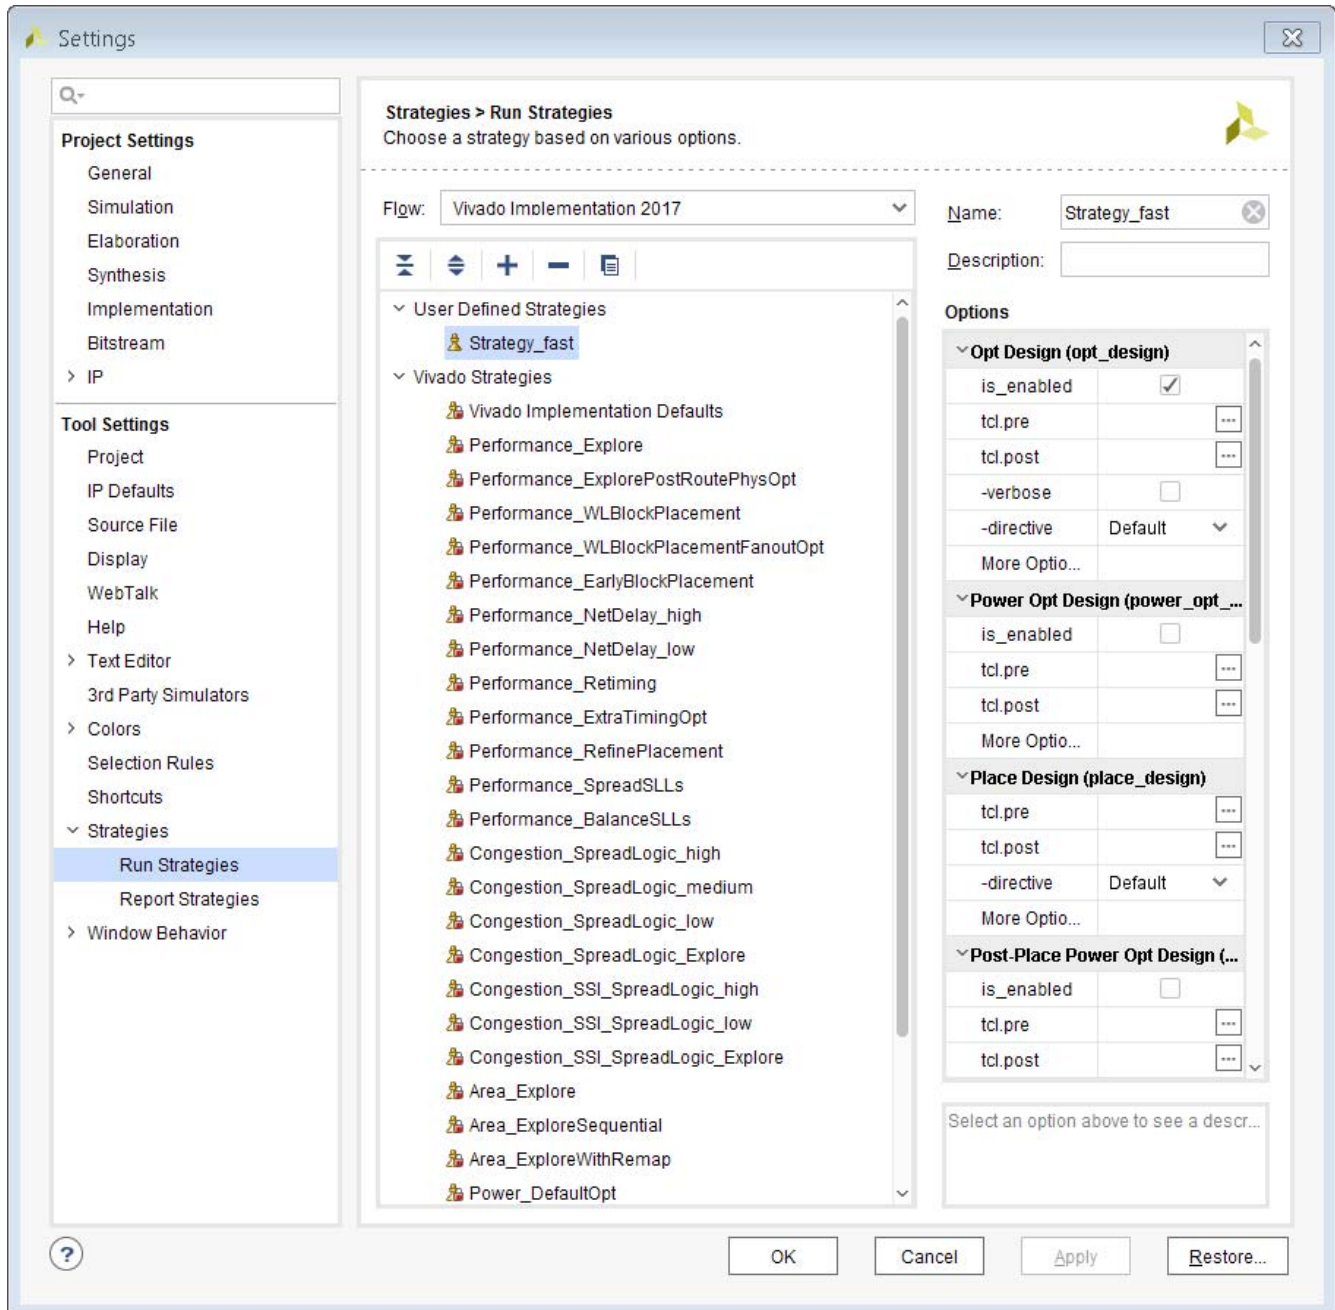

Figure 2-9: Default Implementation Strategies
3. Select **Run Strategies** to review, copy, or modify run strategies. The Run Strategies dialog box (shown in Figure 2-9) contains a list of pre-defined run strategies for various tools and release versions.